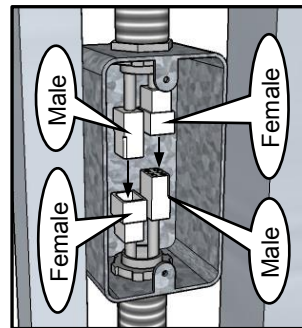
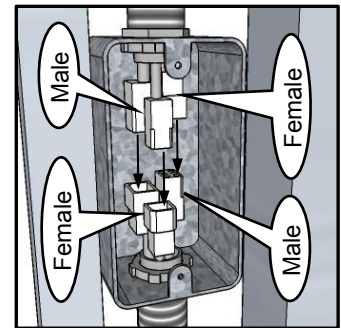

Figure 21
Figure 22
- On 3-stop dumbwaiters, the wires dropping down will have a male and female connector as will the junction box. Make sure the male and female from above plug into the male and female from below. (for 3-stops see Figure 21) (for 4-stops see Figure 22)